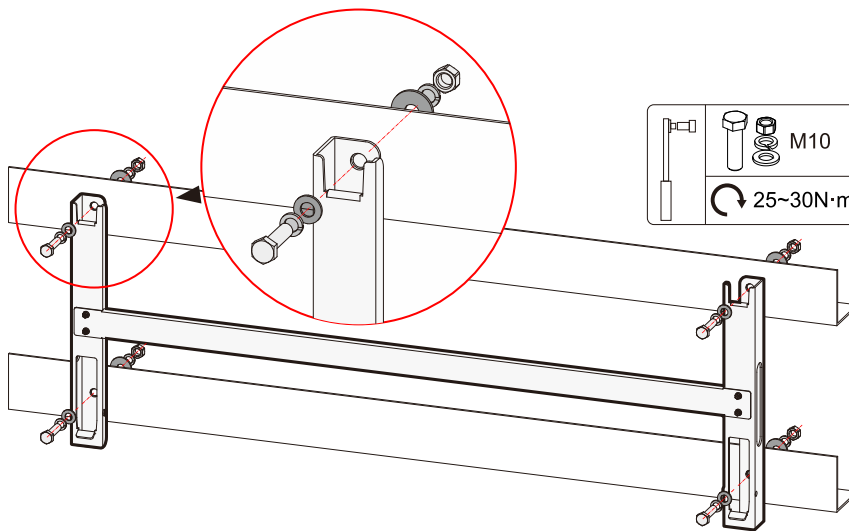

Figure3-15 Fix installation holder
Step 4 Fix the installation holder to the bracket through M10*40 bolts, flat washers, spring washers and nuts, and then tighten the nuts clockwise through wrench, as shown in Figure3-15.